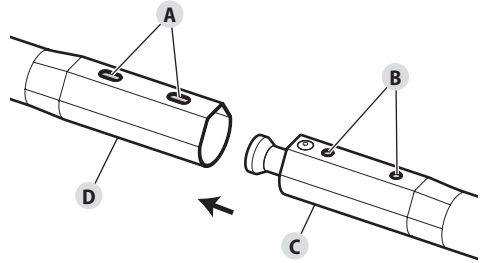

Fig. 5
2. Turn the upper portion of the unit upside down. The holes on the coupler should face up (Fig. 5-A).
3. Turn the lower portion of the unit upside down. The holes on the lower shaft housing should face up (Fig. 5-B).
4. Push the lower shaft housing (Fig. 5-C) into the coupler (Fig. 5-D). The holes on the lower shaft housing should align with the holes on the coupler.